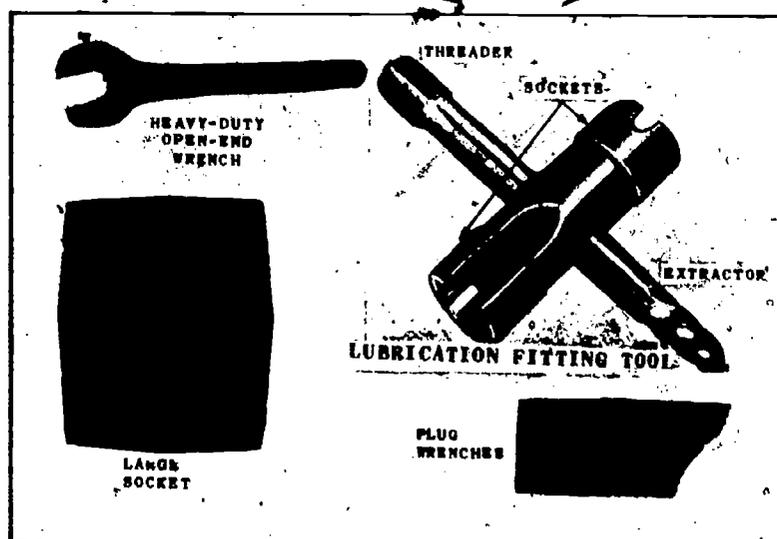

Fig 1-3. Special wrenches for servicing equipment.
- (3) Wrenches (fig 1-3). Special wrenches are designed to remove broken grease fittings and install new ones. A plug wrench that will fit female square sockets is used to remove and install fill, level, and drain plugs. Large Allen wrenches are used for some plugs and the large sockets are used for adjusting wheel bearings.